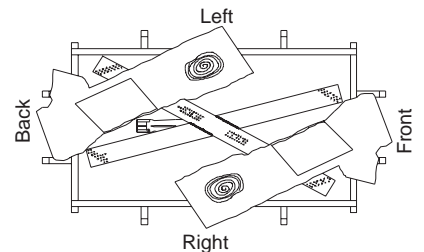

Figure 45 - Installing Logs "A" (Top View)
8. Place logs "A" as shown in Figure 45.